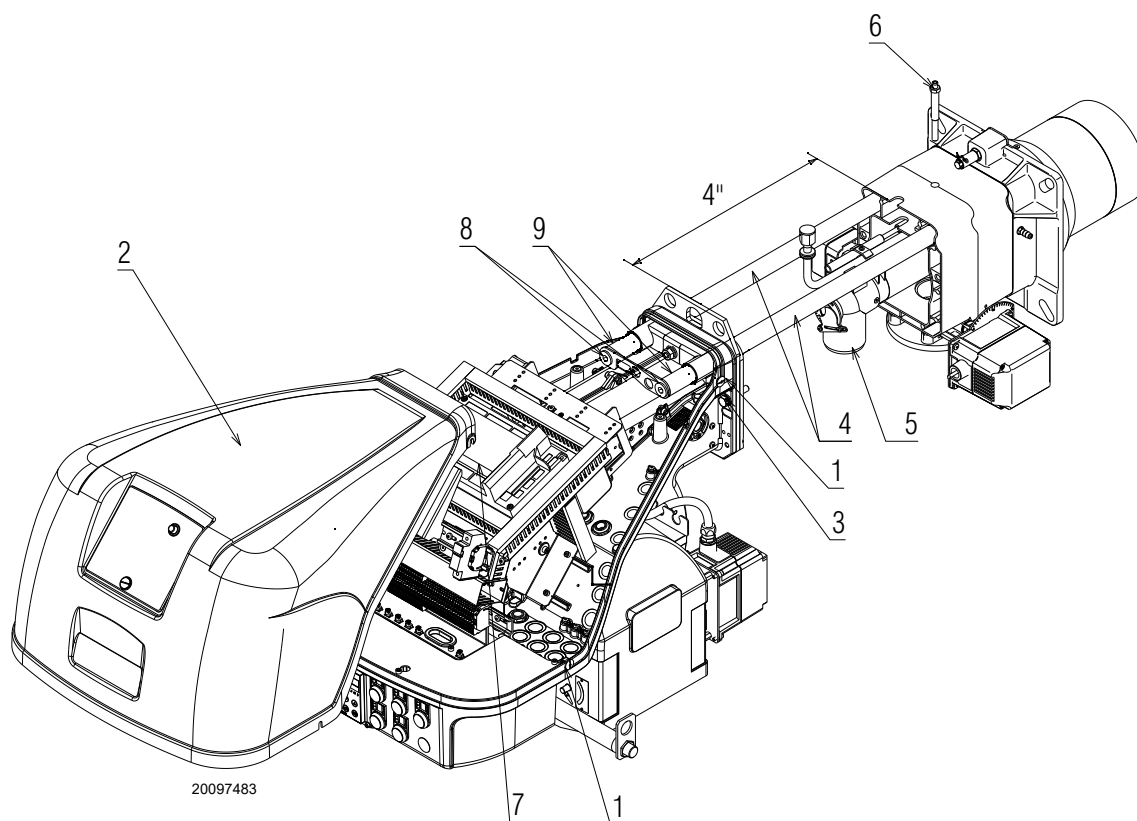

Fig. 40
In case of doubt, disassemble the inner part 5)(Fig. 40, page 31).
- loosen the 4 screws 1) (Fig. 40) and remove the cover 2);